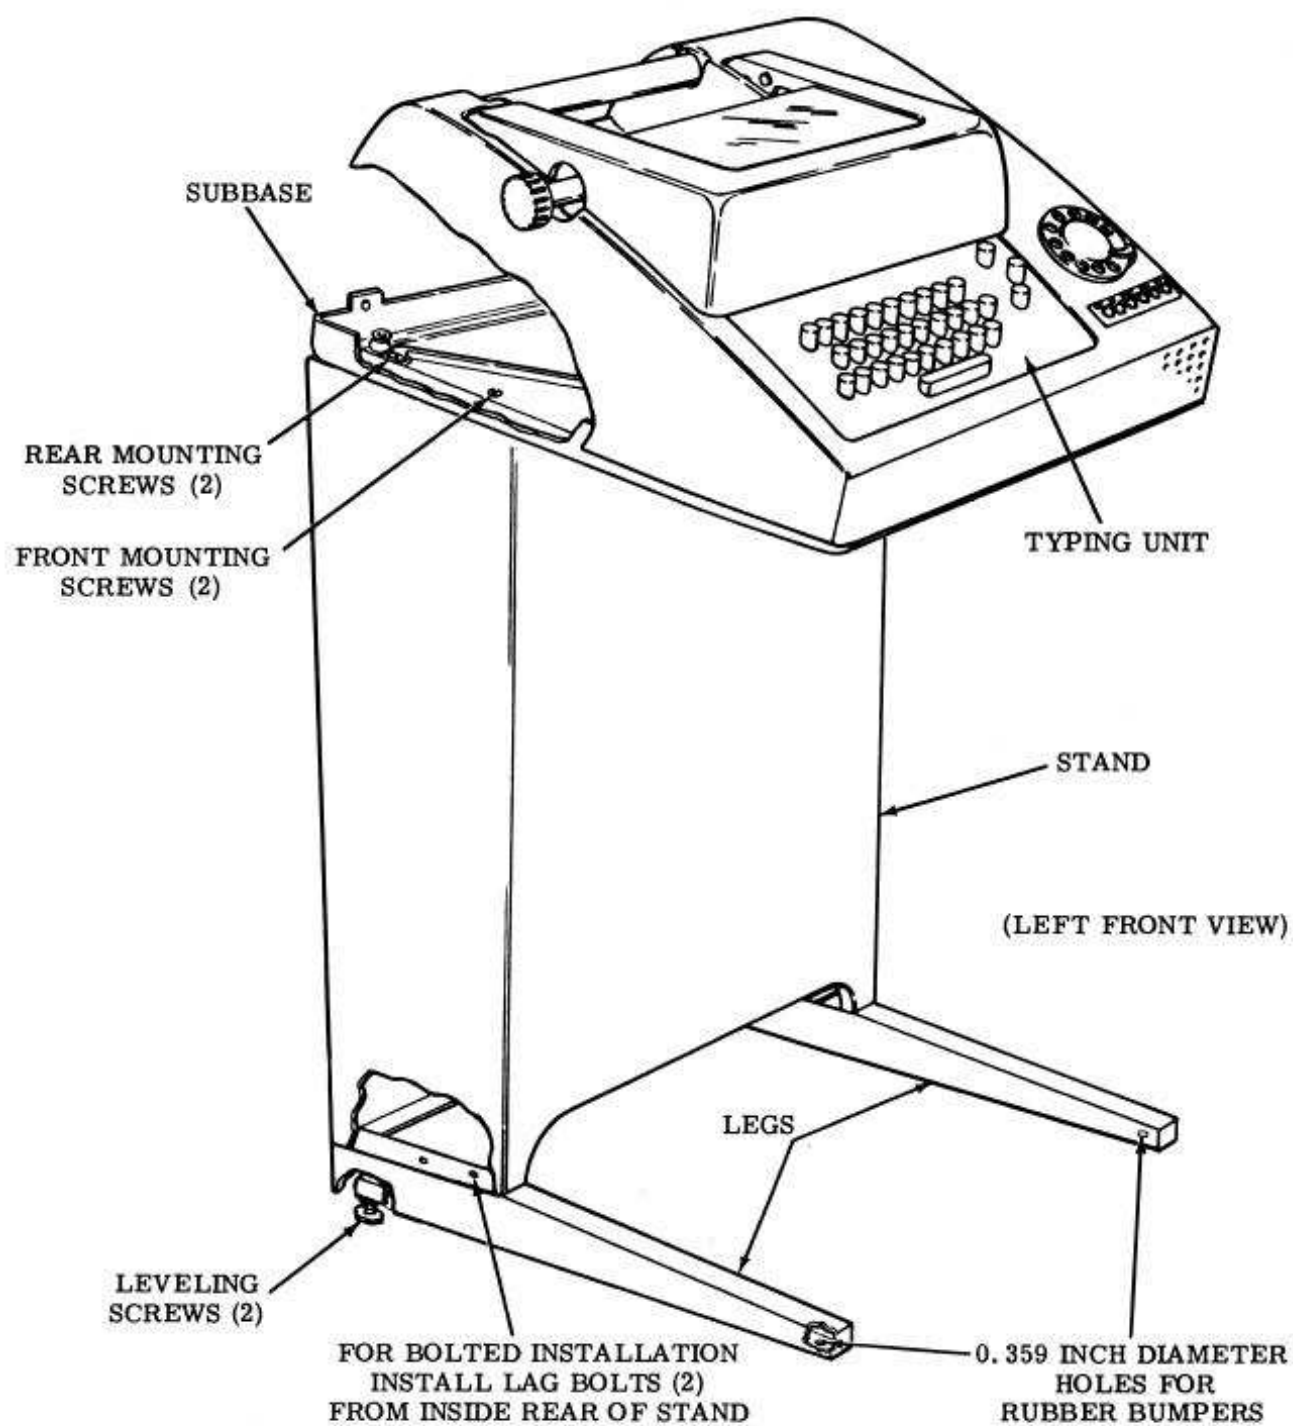

Figure 2 - Stand Leveling and Anchoring and Assembly of Subbase with Typing Unit to Stand
2.01 If the Teletypewriter Set is to be bolted to the floor, remove the front screw in each leg of the stand (Figure 2).
2.02 The subbase with the typing unit is mounted on the stand (Figure 2) by four no. 14Z screws with flat washers. Some subbases may use two no. 14Z screws and two no. 10-32 hex head screws. The two no. 14Z screws are used in two rear mounting holes, and the two no. 10-32 screws with flat washers and lock-washers are used in the two front tapped bosses of the subbase.
2.17 Figure 2 illustrates the leveling and anchoring of the stand.